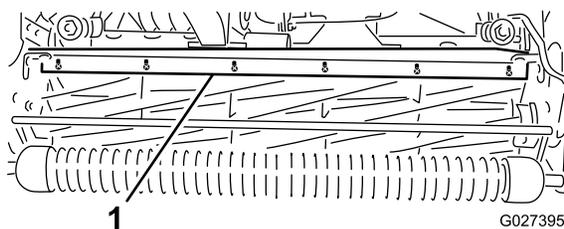

Figure 52
1. Loosen the screws securing the top bar (Figure 52) to the cutting unit.